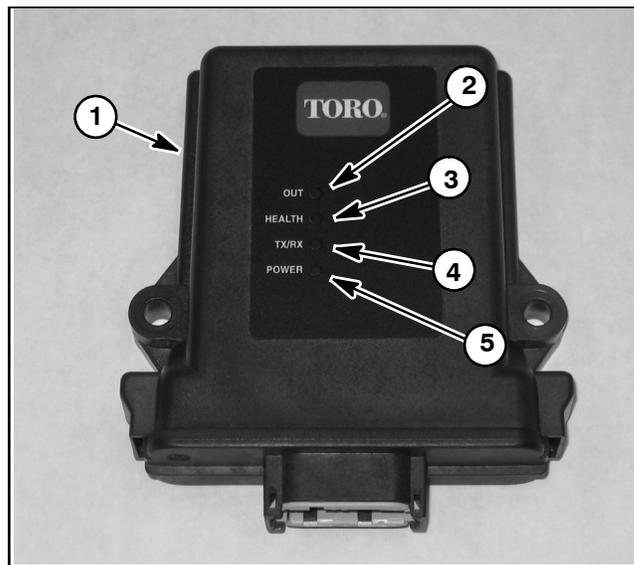

Figure 33
Four (4) status/diagnostic LED's can be used to determine the state of the base unit (Fig. 33).